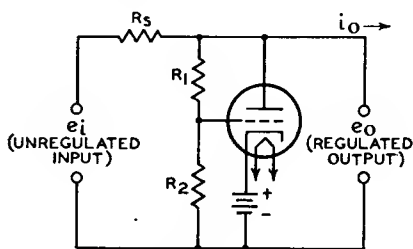

Fig. 92—High-voltage regulator circuit for color television.
**Shunt Regulator Circuit**—Fig. 92 shows the schematic diagram of a typical shunt regulator circuit. This circuit uses a 6BK4C/6EL4 or 6EN4 sharp-cutoff beam triode for the regulator tube and is suitable for regulation of the output of a high-voltage, high-impedance supply. The cathode of the regulator beam triode is held at a fixed positive potential with respect to ground. Because the grid potential is kept slightly less positive by the voltage drop across resistor  $R_2$ , the tube operates in the negative grid region and no grid current is drawn.